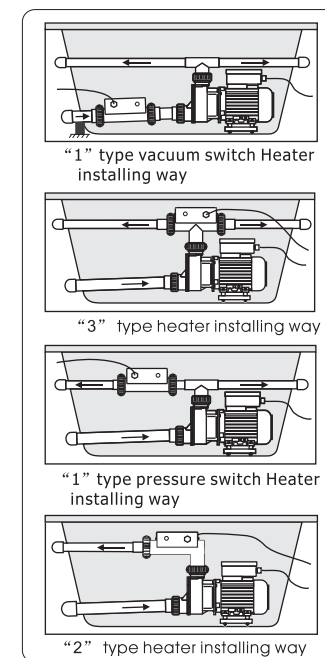

Fig.2
- 2.2 The heater can be installed with inlet or outlet of bathtub pump (Fig.2). (Note:It can't be fixed by binding..)